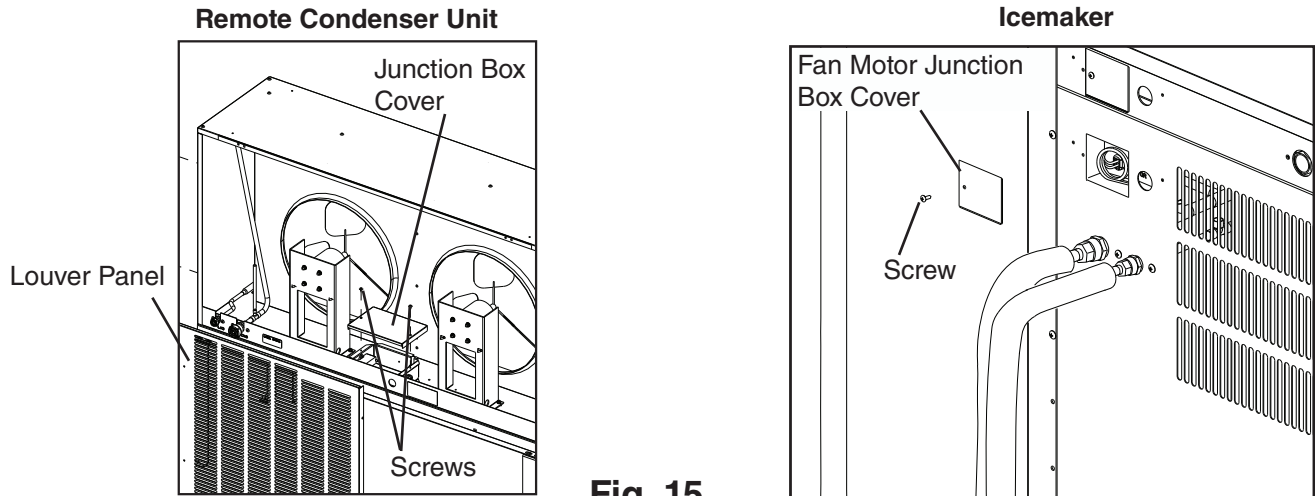

Fig. 15
- 1) Remove the louver panel. See Fig. 15.